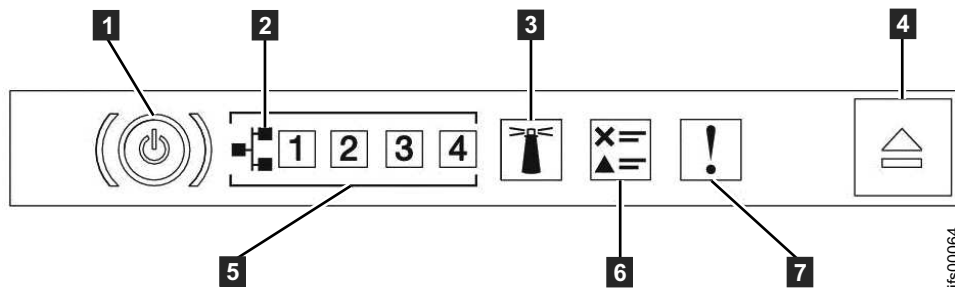

Figure 85. SAN Volume Controller 2145-DH8 operator-information panel
1. Is the System error LED **7**, shown in Figure 85 on page 353, on the SAN Volume Controller 2145-DH8 operator-information panel on or flashing?